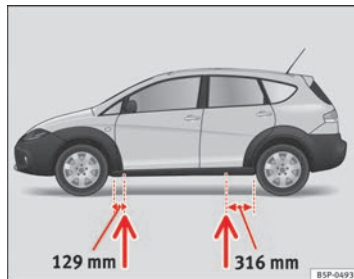

Fig. 171 Jack position points
- Locate the jacking point under the door sill closest to the wheel to be changed ⇒ Fig. 171.
Recesses at the front and rear of the door sills mark the jacking points ⇒ Fig. 171. There is only one jacking point for each wheel. Do not fit the jack anywhere else.